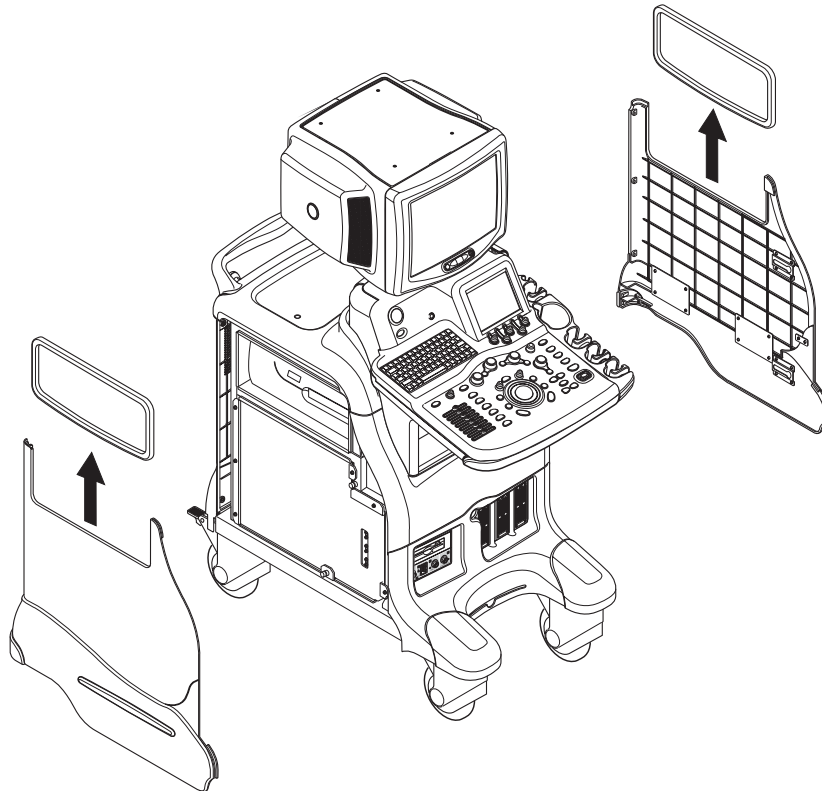

Figure 8-69 Removing the Side Caps
- 4.) Pull the Side Fringe upward from the Right Cover. Refer to Figure 8-69 on page 8-53 .